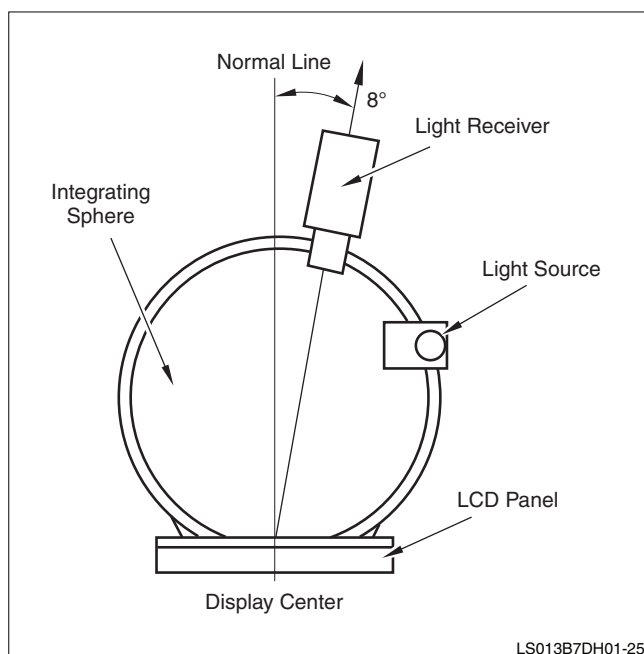

Figure 4. Setup for Contrast, Reflection Ratio, and Chromaticity
2. Contrast Ratio, Reflectivity Ratio, and Chromaticity are measured through the use of an integrating sphere. See Figure 4.